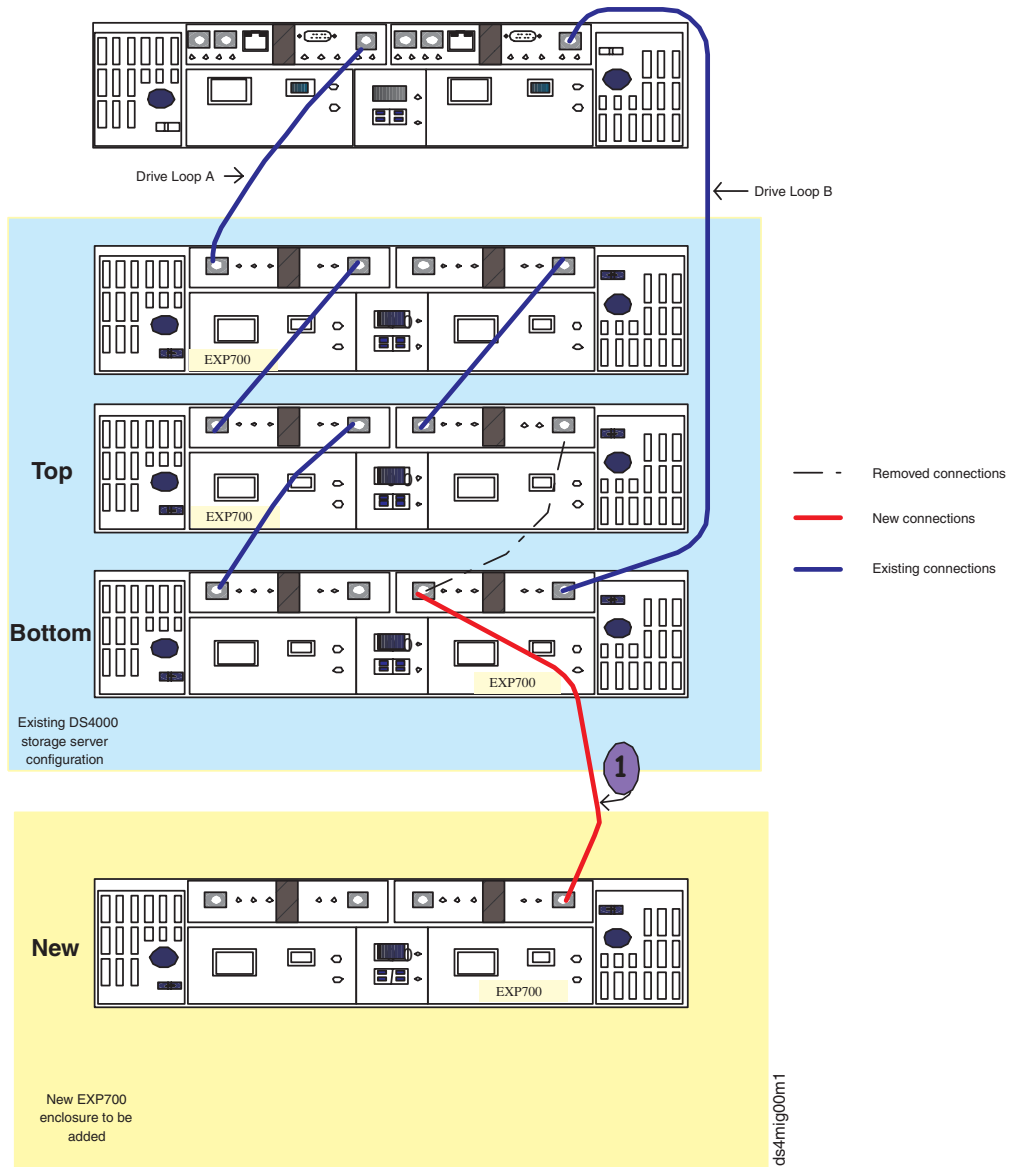
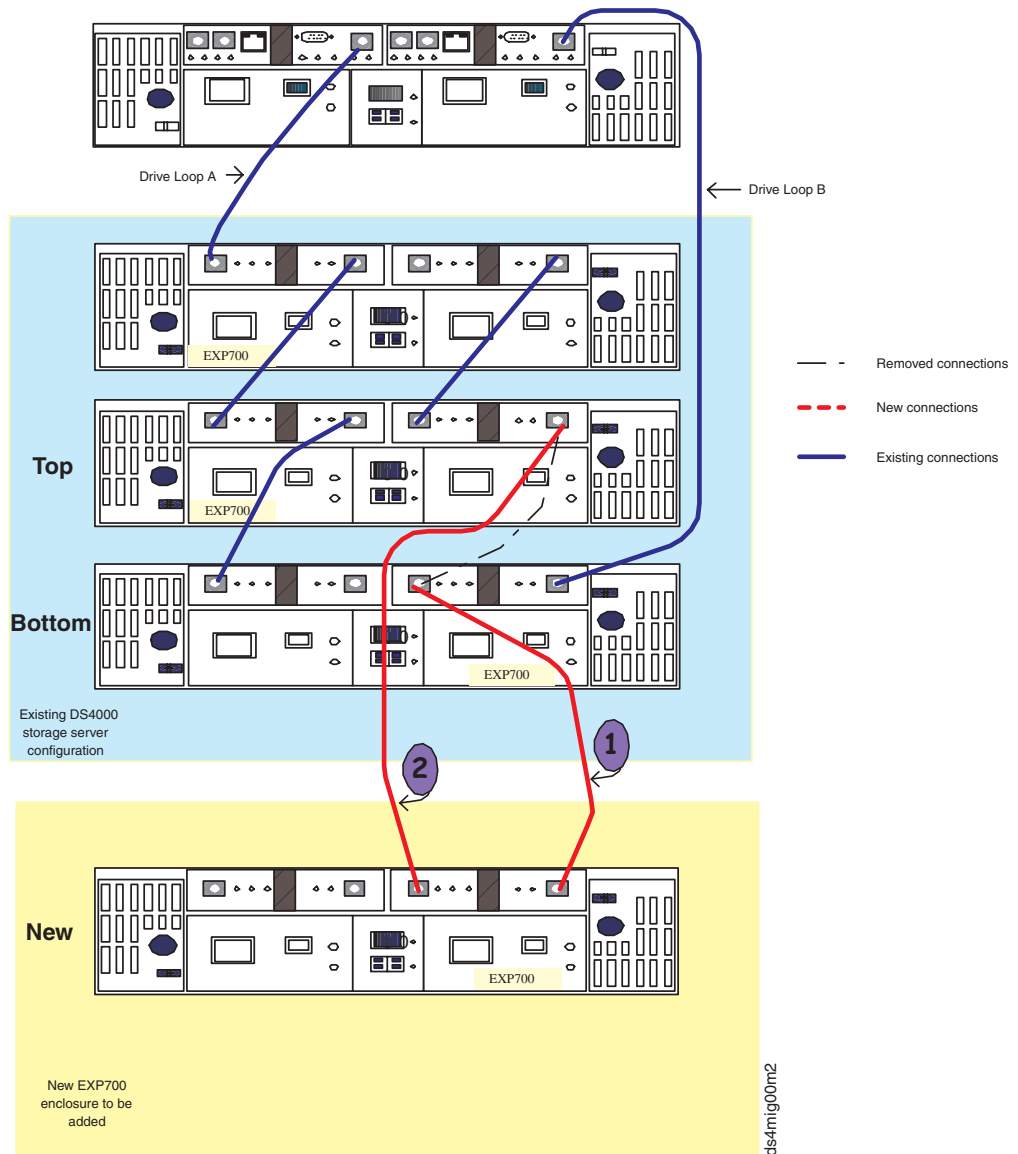
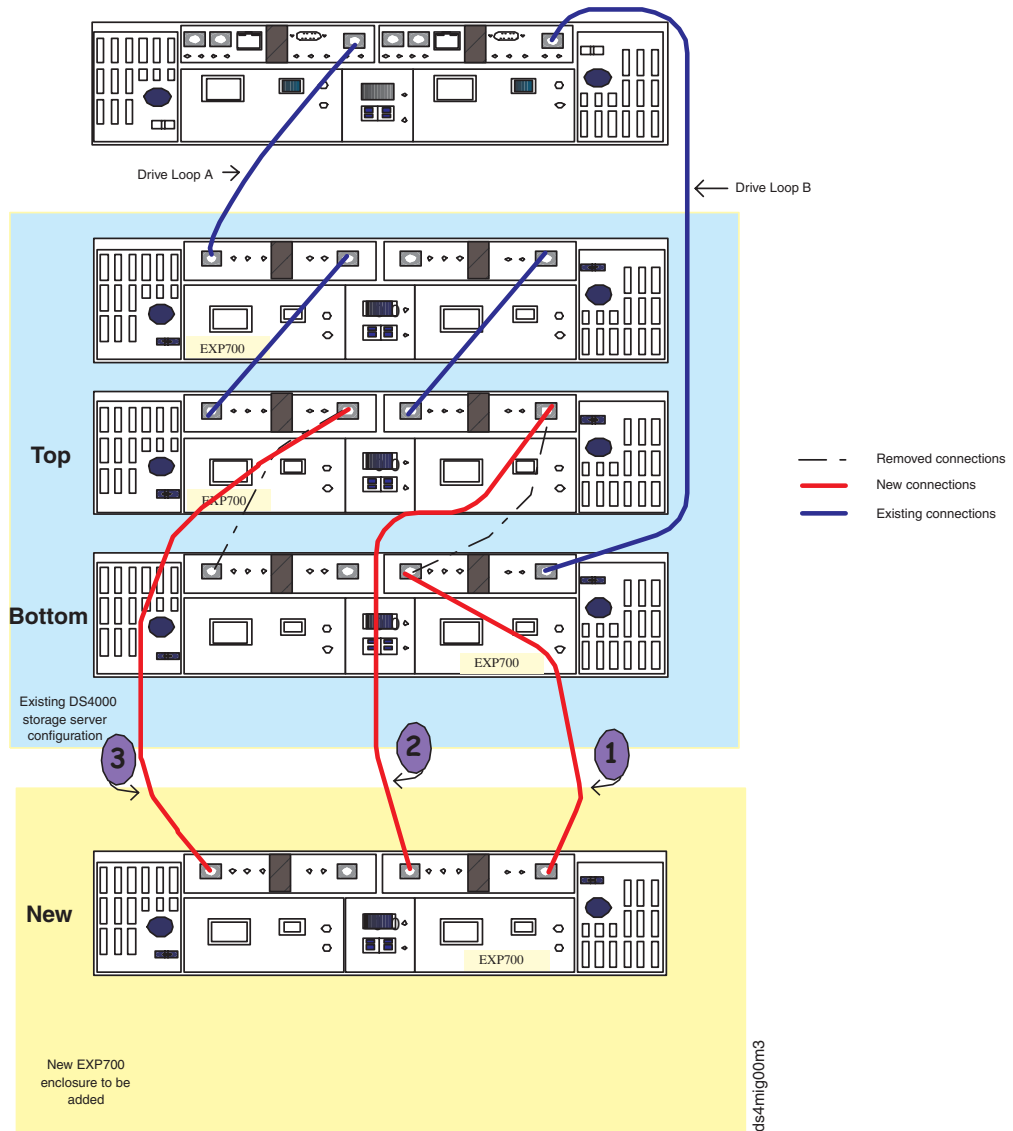
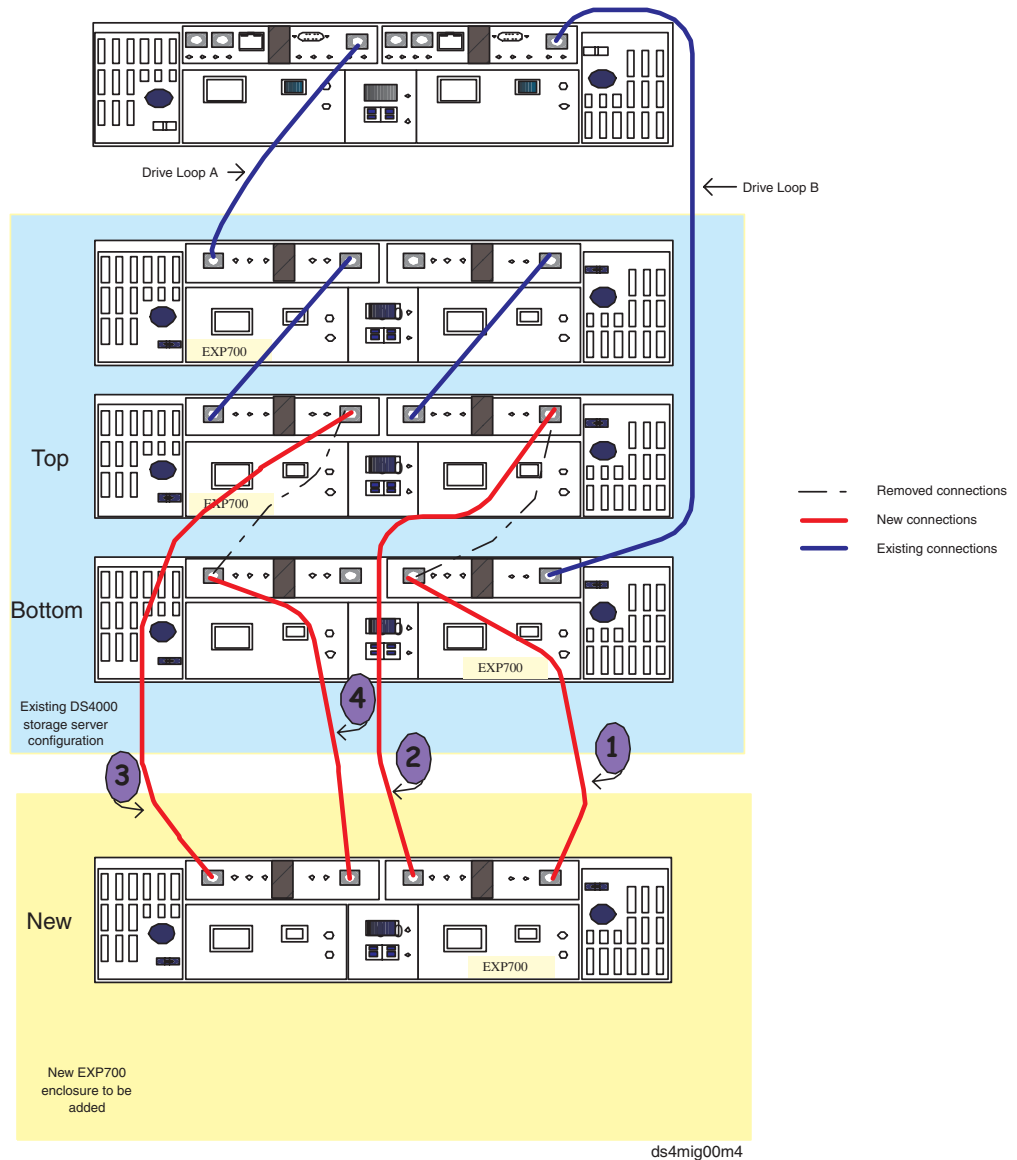

Figure 31. Connect the bottom EXP700 enclosure to the OUT port of the right ESM in the new EXP700 enclosure
Figure 32. Connect the new EXP700 enclosure to the OUT port of the right ESM in the top EXP700 enclosure
Figure 33. Connect the top EXP700 enclosure to the IN port of the left ESM in the new EXP700 enclosure
Figure 34. Connect the new EXP700 enclosure to the IN port of the left ESM in the bottom EXP700 enclosure
The cabling instructions illustrated in Figure 31 on page 94, Figure 32 on page 95, Figure 33 on page 96, and Figure 34 on page 97, describe cabling a DS4000 EXP700 Storage Expansion Enclosure to the middle of a redundant drive loop of a
- ___ Step 2. Connect the IN port of the right ESM in the bottom EXP700 enclosure to the OUT port of the right ESM in the new EXP700 enclosure, rather than to the OUT port of the right ESM in the top EXP700 enclosure. See Figure 31 on page 94.
- ___ Step 3. Connect the IN port of the right ESM in the new EXP700 enclosure to the OUT port of the right ESM in the top EXP700 enclosure. See Figure 32 on page 95.
- ___ Step 6. Connect the OUT port of the left ESM in the top EXP700 enclosure to the IN port of the left ESM in the new EXP700 enclosure, rather than to the IN port of the left ESM in the bottom EXP700 enclosure. See Figure 33 on page 96.
- ___ Step 7. Connect the OUT port of the left ESM in the new EXP700 enclosure to the IN port of the left ESM in the bottom EXP700 enclosure. See Figure 34 on page 97.